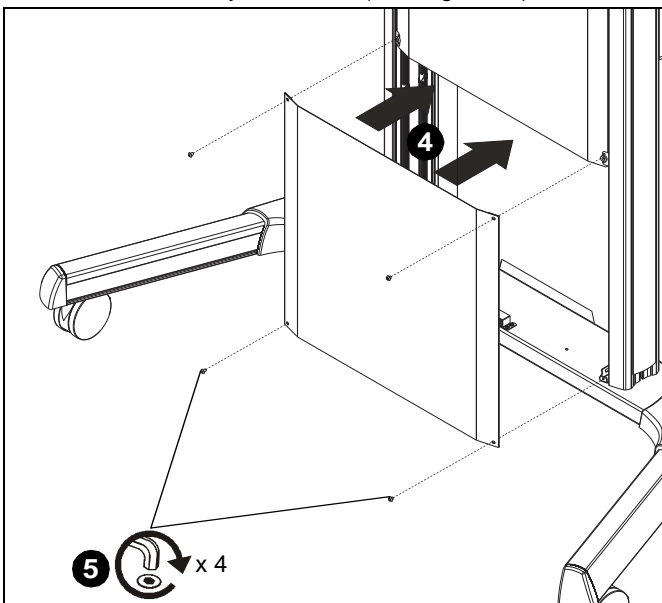

Figure 12
4. Install lower front cover back on cart using magnets. (See Figure 12)
5. (Optional) Re-install four button head cap screws if additional security is desired. (See Figure 12)